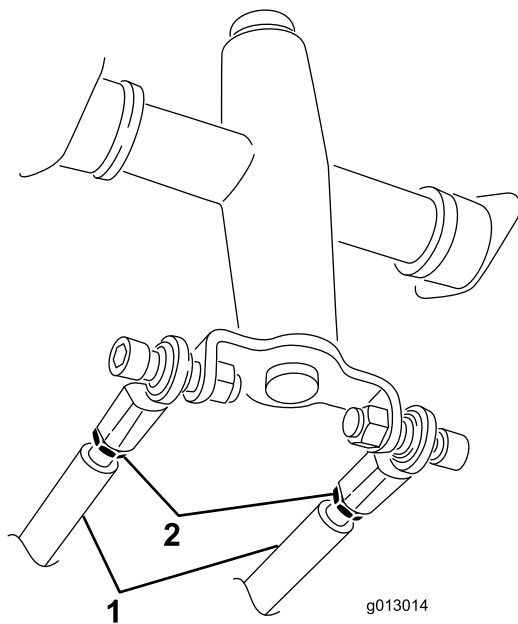

Figure 60
3. Loosen the jam nuts on the traction rods, under the control panel (Figure 60).